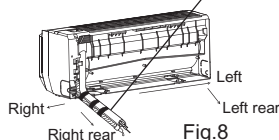

Fig.8
2. Take out the piping from body case, wrap the piping, electric wire, water pipe with tape and pull them through the piping hole (As shown in Fig.8)